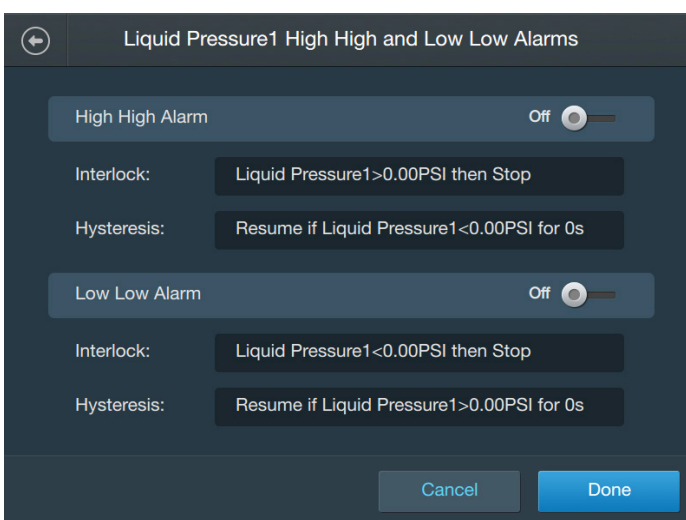

Figure 3.51. Liquid Pressure High High and Low Low Alarms screen.
8. On the screen that appears, both interlock and hysteresis sections will be shown (Figure 3.51). In the “Agitation Interlock Equation” section, enter the Control Set Point (in either mbar or psi) and select the Action Taken (either **Pause** or **Stop**).